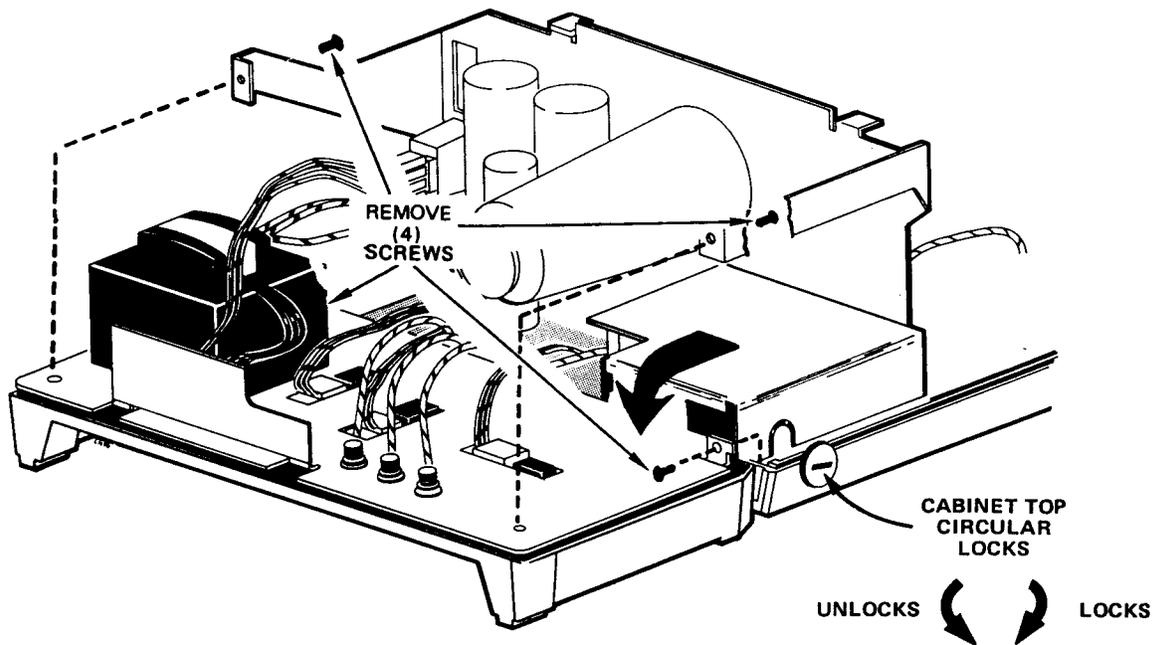

Figure 5-5. Rear panel removal.
(1) Using a coin or large bladed screwdriver, rotate the three circular locks on each side of the cabinet (see Figure 5-5) counterclockwise until the slots are vertical.
(2) Lift the cabinet top straight up.
(3) Remove the five screws holding the EMI Shield (2 on left side near the front, 2 on the top at the rear, and 1 on the top right at the front).
(4) Lift the EMI Shield straight up.
(5) Replace the EMI Shield and cabinet top in reverse order.
(3) Bend grooved part of holder so that connector is inserted into groove.
(4) When plugging connector holders on to board pins, be sure to match triangle mark on holder with triangle mark on circuit board.
c. Rear Panel Assembly Removal and Replacement (Figure 5-5).
(1) Remove the cabinet top.
(2) Unplug the power cord.
(3) Unplug the coaxial connector end at the +A GATE OUT (white wire with yellow trace) and CH 2 OUT (white wire with brown trace) connectors located on the A8 Sweep and A5 Vertical boards, respectively.
(4) Remove the four screws on the inside corners of the rear subpanel.